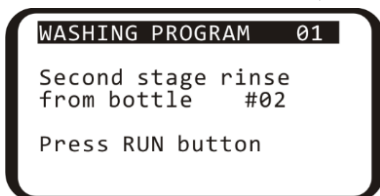

Figure 10. Second bottle confirmation
5.7.3 If the operation requires washing on two channels (parameter **On two channels** set to **YES**), then after starting the program, unit requests the confirmation of the correct bottle number for second wash. (figure 10) Select the necessary bottle number using + and – keys and press the ►/■ key.